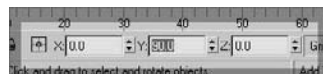

Figure 2.18
3. The bar needs to be rotated a perfect 90 degrees, and that is usually difficult to do by hand using the gizmo. Look at the bottom left of the Max UI, and you will see the orientation of the bar in three text boxes called the Transform Type-In boxes. You can enter a value of **90** in the Y-axis Transform Type-In box to set the bar to exactly 90 degrees, as shown in Figure 2.18.